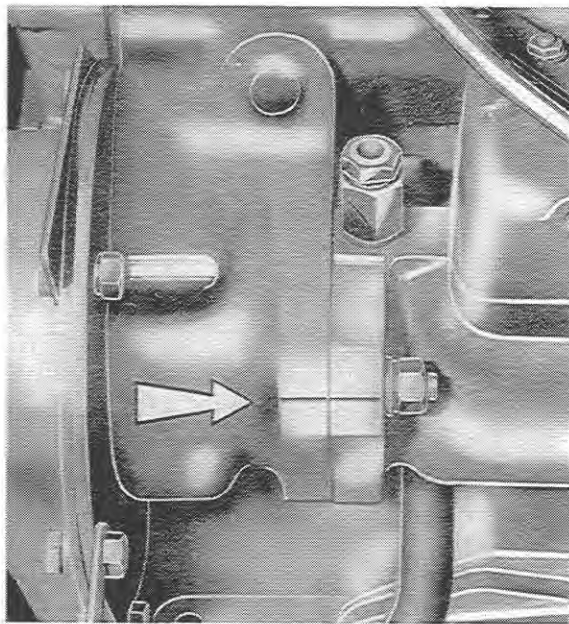

Fig. 7
- 4) Align the timing marks on the cylinder block and pump mounting flange as in Fig. 7 and tighten the attachment nuts.